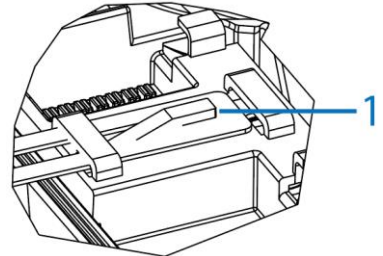

Figure 3
6. Hold the dome cover up to the camera base and insert the hole on the end of the safety wire onto the 'hook' (1) (Figure 3) on the camera base.